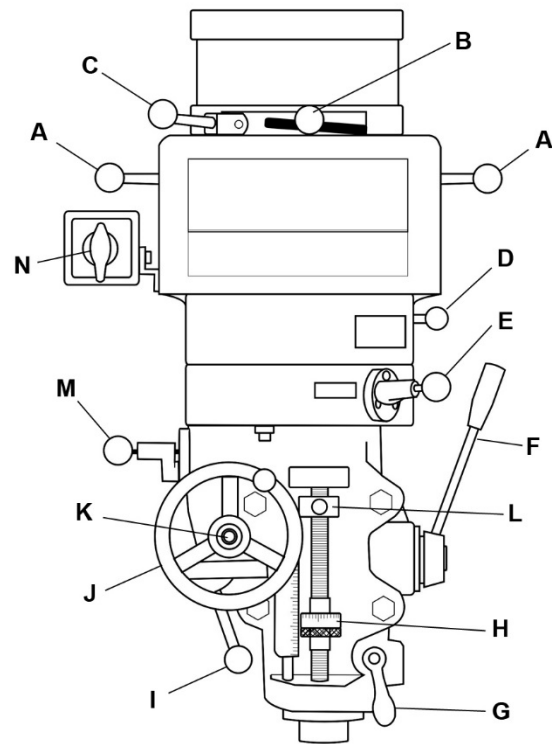
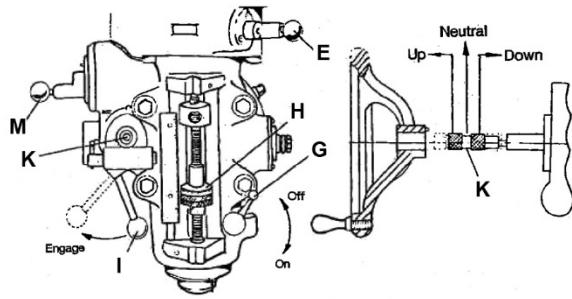

Figure 5 (repeated)
Figure 7
- J. **Manual Fine Feed Handwheel** (J, Figure 5) – Feed reversing knob (K, Figure 5) must be in neutral position. The feed trip lever (I, Figure 5) must be engaged. Note: Manual feed handwheel may be removed when not in use.
- K. **Feed Reversing Knob** (K, Figure 5) – located in center of manual feed handwheel. Position of knob depends upon direction of spindle rotation. If boring with right hand cutting tools, pull knob towards operator until clutch engages. Neutral position is between forward and reverse positions (see Figure 7).
- L. **Quill Stop** (L, Figure 5) – Disengages automatic feed in either direction, as well as the setting point for working to a given depth during manual feeds.
- M. **Quill Feed Rate Selector** (M, Figure 5) – Pull knob out and locate handle over choice of three feed rates: 0.0015”, 0.003”, 0.006” downfeeds per revolution of spindle. Feed is more readily engaged when spindle is turning.
- N. **Reversing Switch** (N, Figure 5) – Turns spindle on and off, and changes rotation direction.
Refer to Figure 7:
1. Disengage automatic feed by pulling out knob (E, Figure 7) and moving lever to the right hole.
- Position feed reversing knob (K) in the center at neutral position.
- Engage feed trip lever (I) by pulling away from head assembly.